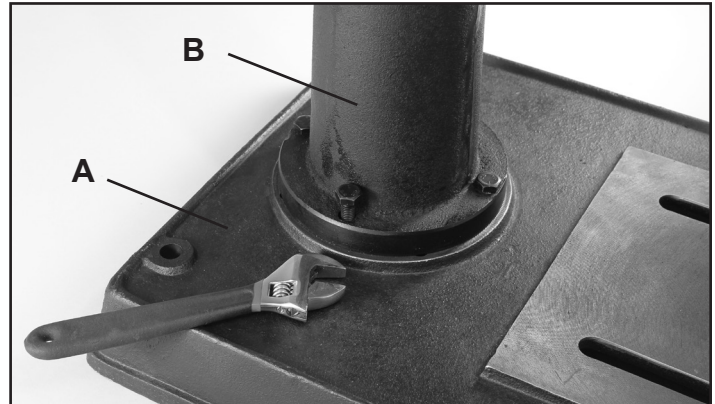

FIG. 1
1. Place the Base (Part #1A, Figure 1, A) on a level floor where the machine will be used. FIG. 1.
3. Check the Hex Screw (#22A) on the rear of the support column (B), and the Hex Screw (#11A) on the Collar Rack (#10A) to make sure that they are secure.